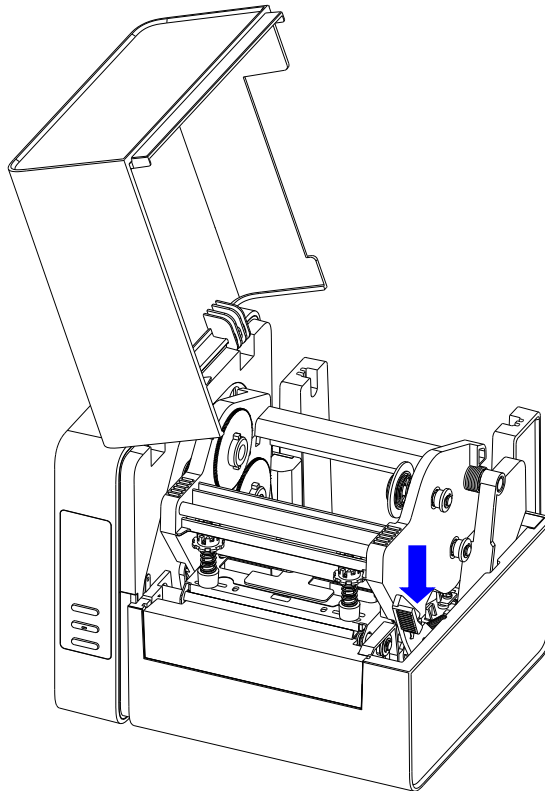

Figure 2-6 Release the Printhead Module
1. Lift the right cover and push down the Printhead Release Lever to release the Printhead Module, see Figure 2-6.